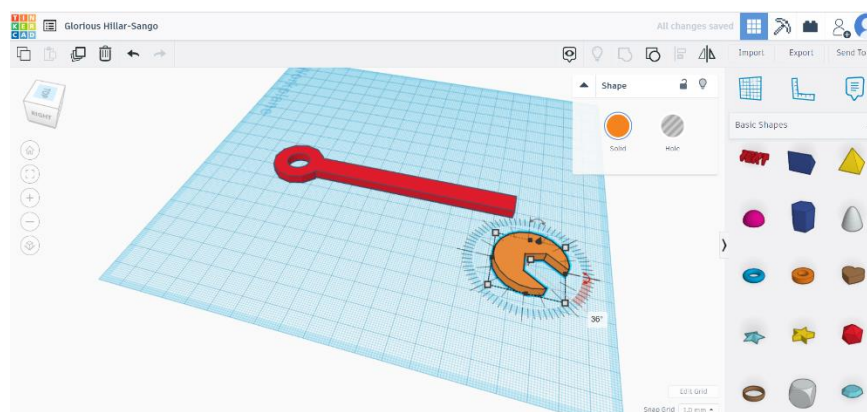

Figure 10 : Rotating the jaw
Align both shapes just like we did in the last step – that is, just in the “long” direction. Then, hold Shift and move the ring in a straight line towards the handle. Make sure to overlap the two shapes just a little bit (using the image below as a reference), and when that’s done, go ahead and group them. This should merge the handle and the ring into one continuous unit. Notice that it now has a single colour instead of two. In case the jaw is facing the wrong direction, we need to fix that by rotating it. First, select the jaw by left-clicking on it. In addition to the white handles, note the three curved handles with double arrows. Hovering your mouse over the one in the bottom (XY) plane will cause an angle value to pop up. To rotate the jaw, either click and drag the handle around the shape or enter a value manually. (Figure 10)